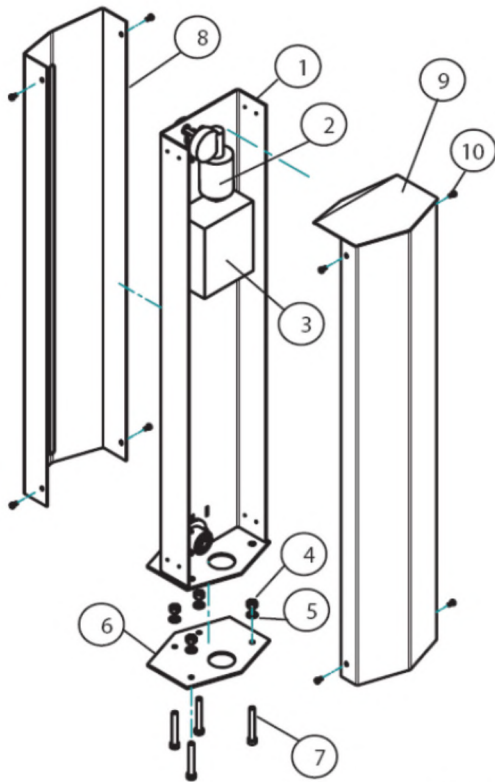

Fig.4
■ 8.1.2. Installation of the Column (Fig.1, Fig.2, Fig.4)
5. Unscrew the 8 screws [10] take off the frontal [8] and the rear cover [9] of the column (Fig. 4)